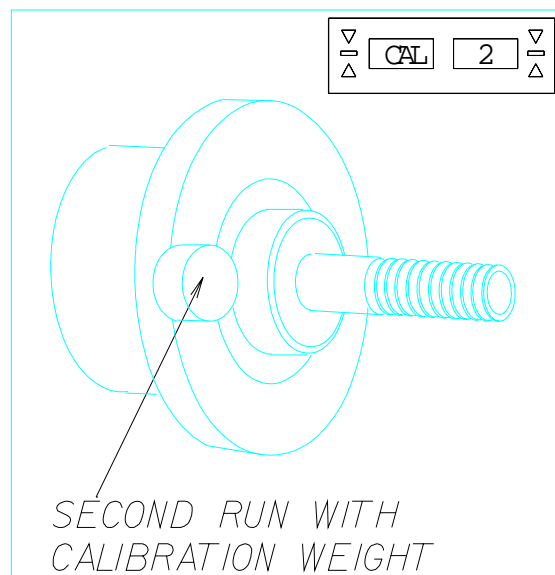

Figure 10
- Screw the calibration weight into the threaded hole on the outside surface of the balancer backing plate. See Figure 10.